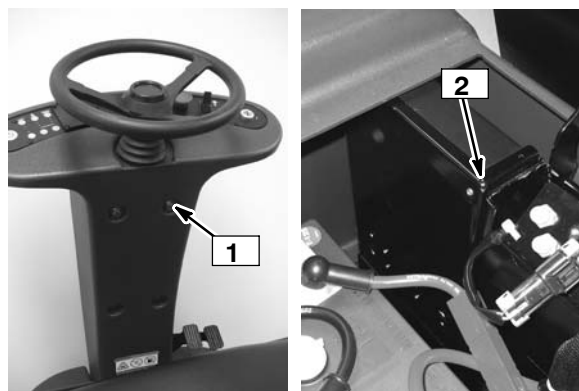

Fig. 11
1. To check for continuity between the steering tower and the control board housing, use either a continuity tester or VOM set to ohms between points 1 & 2. The continuity meter should beep or light up, the VOM should read less than about 10 ohms (Figure 11).